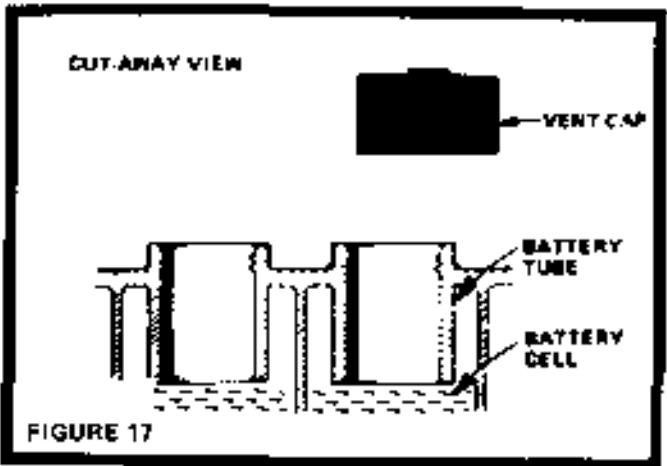

FIGURE 17
- Electrolyte solution level in each Battery Cell should be even with bottoms of tubes in cells (Fig. 17). Add distilled water if necessary. NOTE: DO NOT OVERFILL.